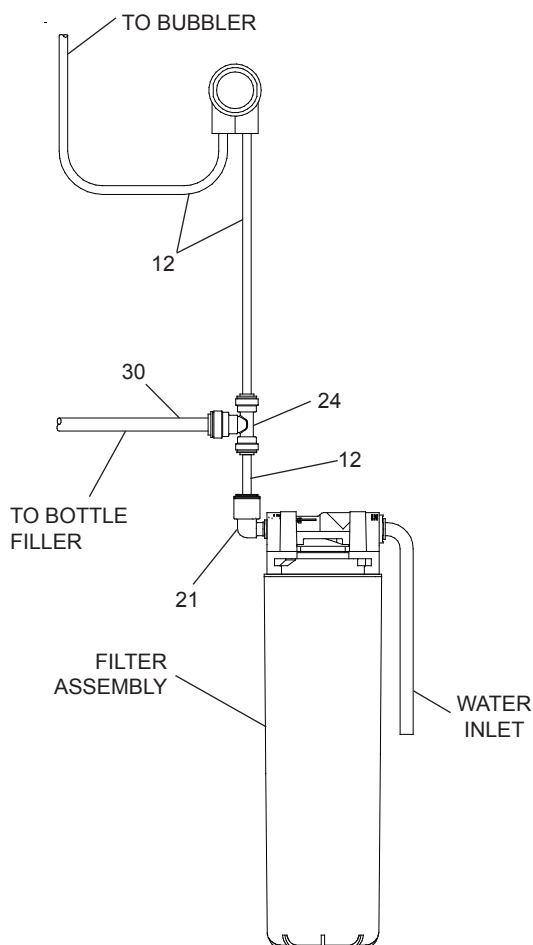

Figure 3 - HTHBWF-OVLEBP-I Tube Routing
- 4a. **Install** the supplied 4" poly tubing and armaflex to the previously installed elbow. Connect supplied 1/4" x 1/4" x 3/8" tee to the 4" poly tubing. With the back panel standing close to the frame, connect 3/8" poly tube coming from the bottle filler to the tee per (Fig. 3).